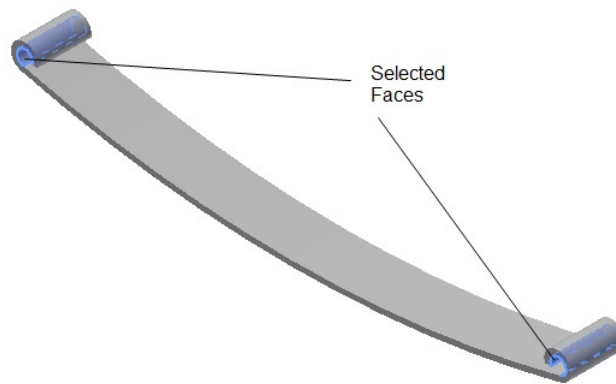

Figure 18-59 The faces selected for applying fixed constraint
2. Select the two inner surfaces of the eye of the leaf spring, as shown in Figure 18-59.